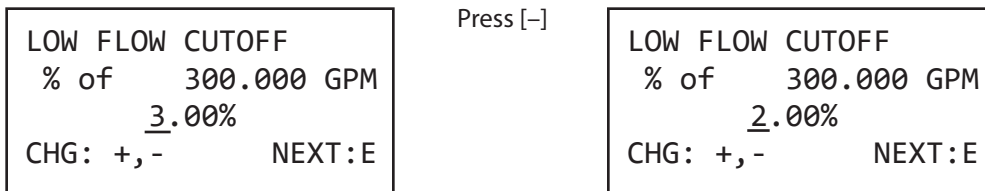

Figure 31: Decrease a value
**Example 2:** For procedures that require you to enter a numeric value, use the [-] button to decrement the selected numeral. *Figure 31* shows the *Low Flow Cutoff* parameter display. Notice the cursor under the 3. In this case, press the [-] once to decrement the numeral to the value of 2.00 %.